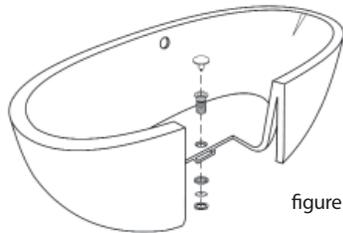

figure 4
9. Attach the Drain Body Nut on the Drain Body and tighten until the Nut and Washer have created a seal with the bottom of the bathtub. **DO NOT OVERTIGHTEN** (figure 4).